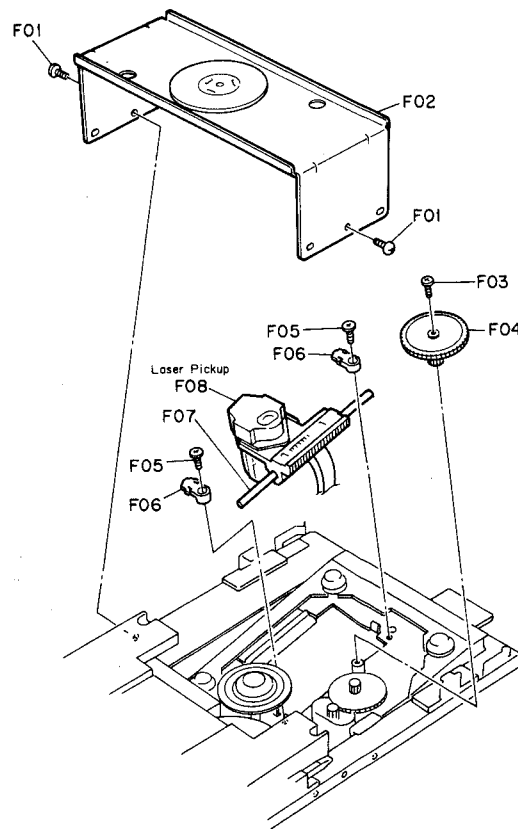

Fig. 2.5.2
- (3) Slide the Disc Tray forward by hand.
- (4) Loosen screws F01 (2 pcs.) and remove F02 (Chuck Chassis Ass'y). See Fig. 2.5.2.
- (5) Loosen a screw F03 and remove F04 (Gear A).
- (6) Loosen screws F05 (2 pcs.) and remove F06 (Shaft Clamp, 2 pcs.).
- (7) Pull out F07 (Slide Shaft) from F08 (Laser Pickup).
- (1) Install a new Laser Pickup by reversing procedures in item 2.5.1. See Fig. 2.5.2.